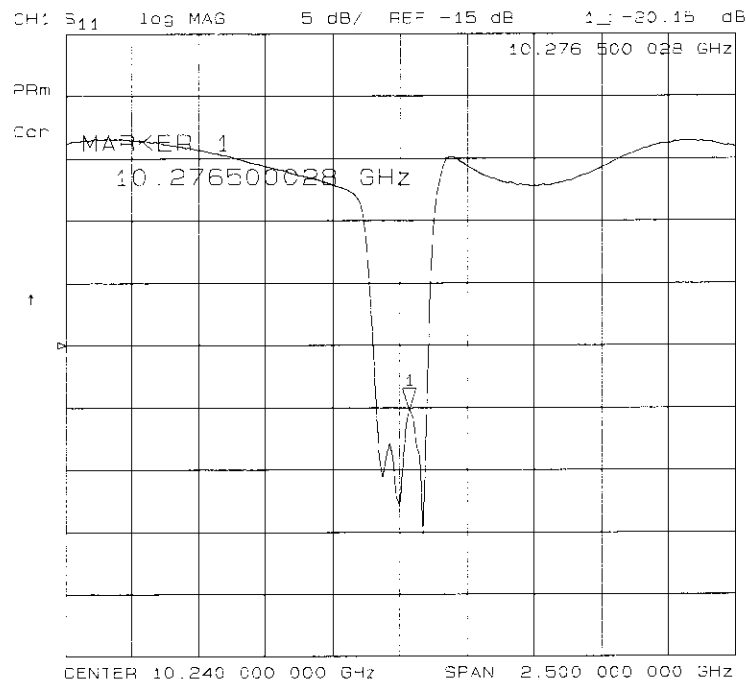

Figure 2-10. Example Return Loss Measurement Trace
4. Press **Marker** to read the return loss from the analyzer display as shown in Figure 2-10.